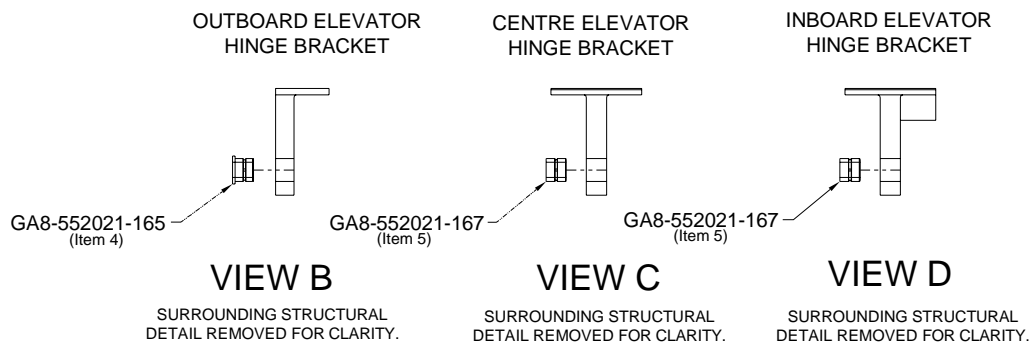

Figure 2
Issue 2: Minor corrections and clarifications. Figure 2 added.
- 1.4. Install the outer bushes (items 4 and 5) with an interference fit in the respective inboard, centre and outboard hinge brackets for each elevator hinge using Loctite 603 (or equivalent), with the flange of each outboard bush located on the outboard face of the respective hinge bracket. The inboard and centre outer bushes are identical. See Figure. 2